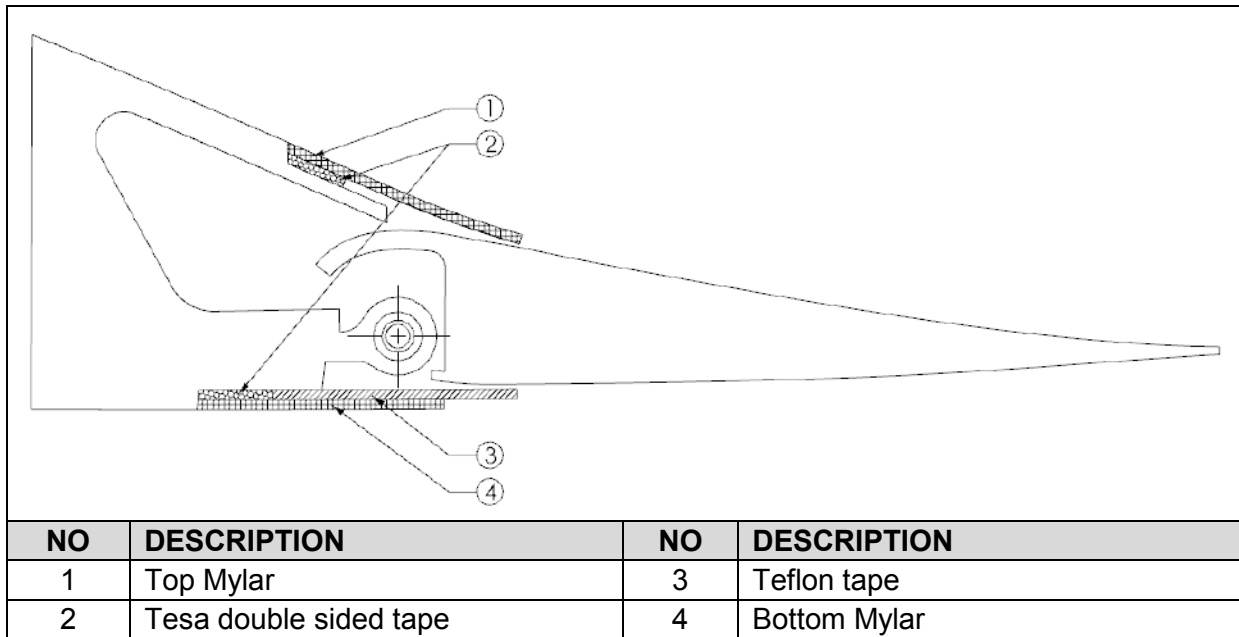

Figure 57-8: Mylar, double-sided tape and Teflon tape on wing
6. Apply 12 mm TESA double-sided adhesive tape on the bottom Mylar recess (Figure 57-8).
7. Deflect the ailerons fully upwards, and then apply Teflon tape along the edge of the double-sided tape (Figure 57-8).
10. Apply Mylar to the bottom skin of the wing plane (Figure 57-8).
11. Apply TESA 12 mm double-sided tape and Mylar to the Top skin (Figure 57-8).